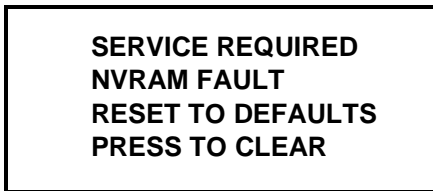

Figure 120
4. During the program initialization, (Language, System Data, Config Data, Lockout Data) the RESET TO DEFAULTS message will display on the screen. (See Figure 120.)